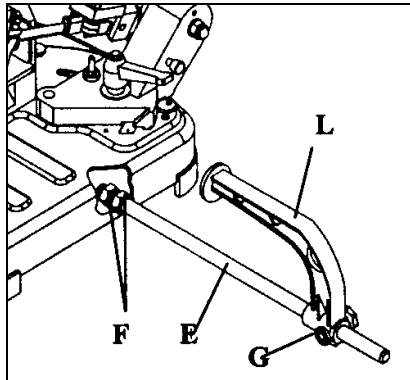

Fig 2
Screw the rod (E, Fig 2) into the hole of the base and fasten it with nuts (F).